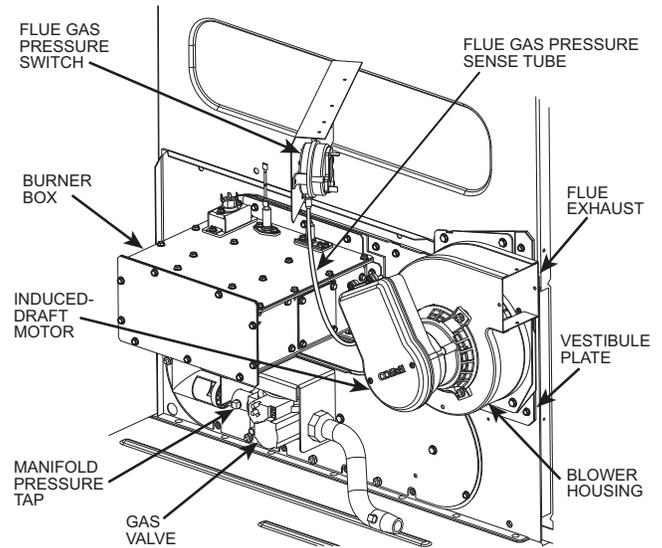
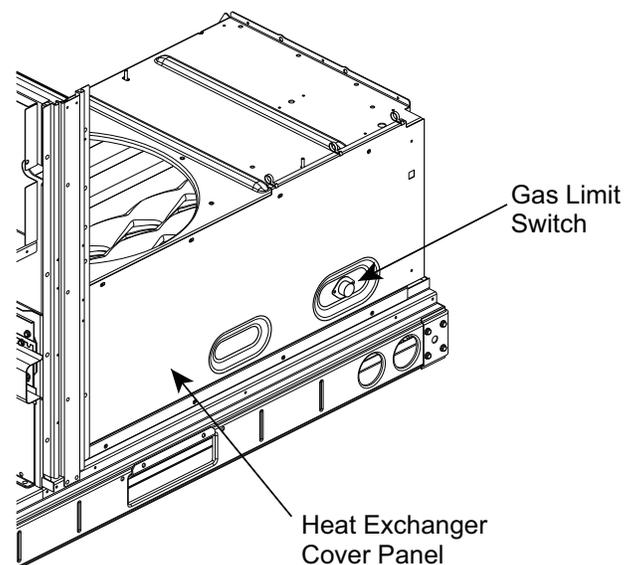

Fig. 48 — Burner Section Details
Fig. 49 — Gas Limit Switch Location
The heat exchanger system consists of a gas valve feeding multiple in-shot burners off a manifold. The burners fire into matching primary tubes. The primary tubes discharge into combustion plenum where gas flow converges into secondary tubes. The secondary tubes exit into the induced draft fan wheel inlet. The induced fan wheel discharges into a flue passage and flue gases exit out a flue hood on the side of the unit. The induced draft fan motor includes a flue gas pressure switch circuit that confirms adequate wheel speed through the Integrated Gas Control (IGC) board. Safety switches include a Rollout Switch (at the top of the burner compartment; see Fig. 48) and a limit switch (mounted through the heat exchanger cover panel, over the tubes). (See Fig. 49.)
See Fig. 48, 50, 52 and 53.
10. Remove the pressure switch hose from the connection on the flue cover assembly (see Fig. 48).